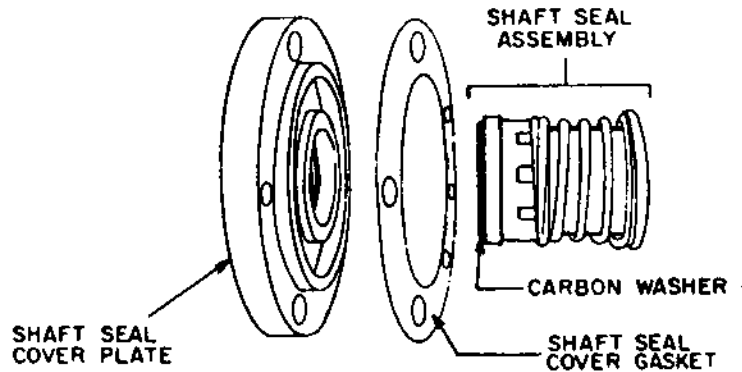

Figure 3-19. Shaft Seal Exploded View
a. Install new shaft seal assembly, cover gasket, and cover plate only. Never reinstall a used seal assembly and gasket. A new carbon washer should never be installed in a used cover plate. When installing the seal assembly, use care not to damage carbon washer or seal seat. If the new carbon washer is damaged during installation, replace it with a new one. (See figure 3-19 for an exploded view of the seal assembly.)